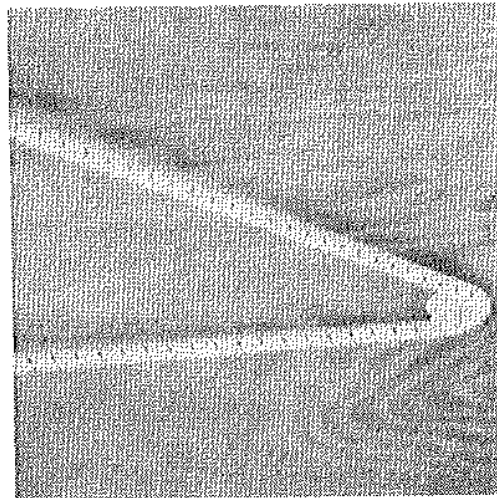

Fig. 8
13. Hook elastic cord from bed flaps over nylon holders beneath bed in the following order: first, outer corner loops with clamp rings; second, inner corner loops with clamp rings near camper box, and third, remaining holders. All holders MUST have cord attached and IN USE when Camping. Fig. 8